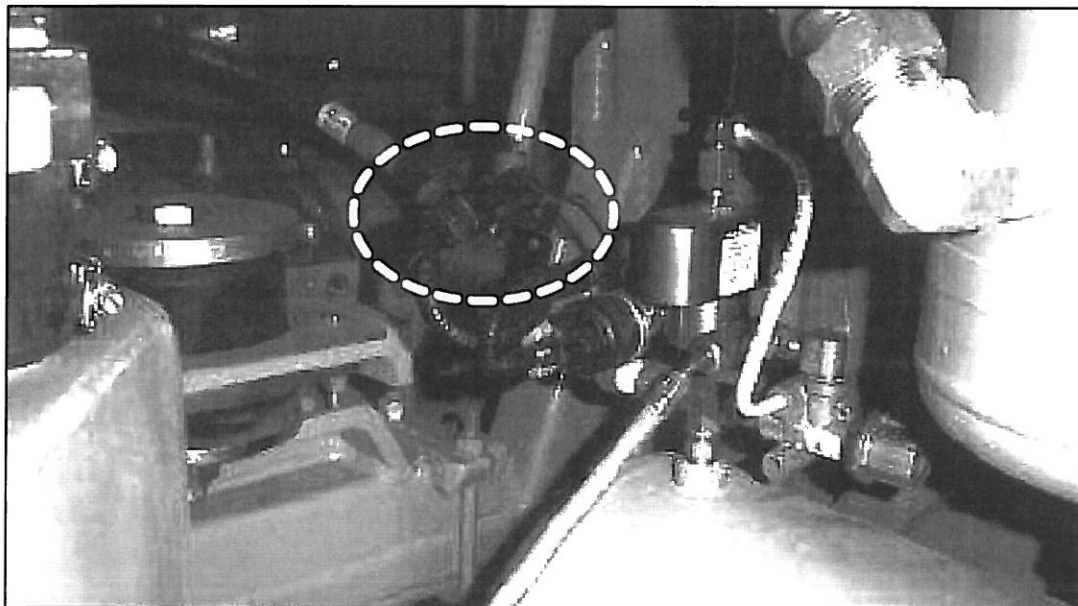

Figure 7.
20. Locate the rear rise solenoid harness (refer to Figure 7). Verify that the rear rise solenoid harness, with red and black cables, is connected. If disconnected, check both harness ends for plugs and discard if plugs are present. Re-connect the two ends of the harness and secure by tyrrapping to sensor.